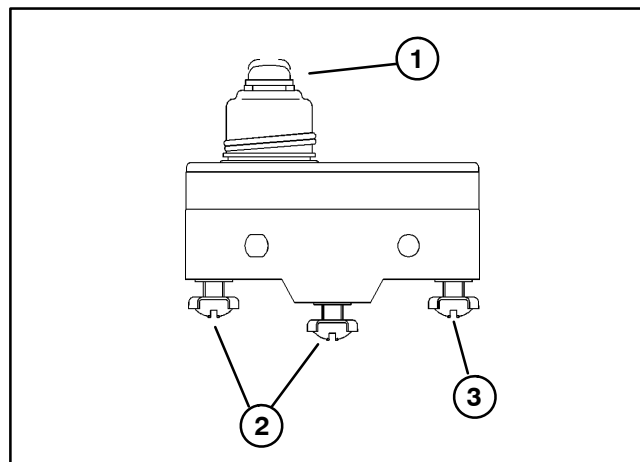

Figure 8
1. With the bail released (away from the handle), there should be no continuity between the two terminals used on the Operator Presence Kit switch (Fig. 8).